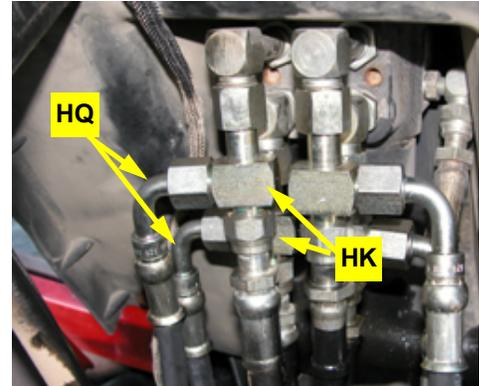

Figure 9a: Connected pressure tank hoses
- a. Connect the pressure and tank hoses **HQ** to the branches of the run-tee fittings **HK** installed at step 5b (Figure 9a).